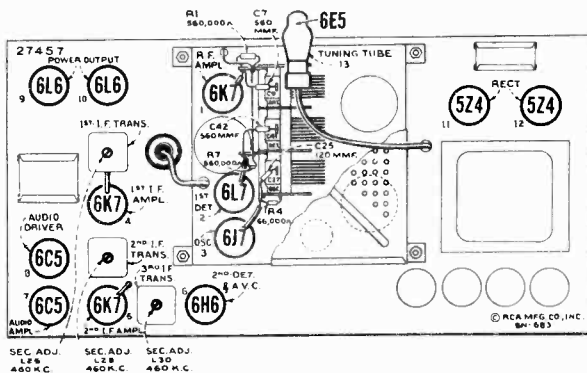

Figure 1—Radiotron and I-F Trimmer Locations
- (a) Turn range selector to its "Standard broadcast" (A) position and tune receiver to a position of no extraneous signals near 600 kc. Set fidelity control to counter-clockwise position. Connect the "Ant." output of the test oscillator to the grid cap of RCA-6K7 second i-f tube (with grid lead in place) through a .001-mfd. capacitor, with "Grid" to receiver chassis. Tune the test oscillator to 460 kc and place its modulation switch to "On," and its output switch to "Hi."
- (c) Adjust the two magnetite core screws L30 and L29 (see figures 1 and 10) of the third i-f transformer (one on top and one on bottom) to produce maximum vertical deflection of the oscillographic image. This adjustment places the transformer in exact resonance with the 460 kc signal.